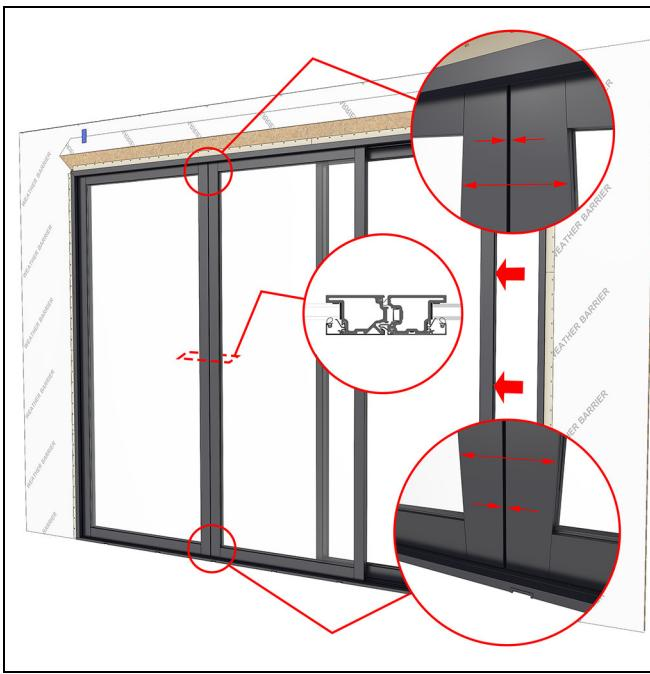

Figure 121
12. Slide the (C) panel over tight against the (H) stationary panel. Check to make sure you have an even reveal along the panel. The gap should be about $1/4"$ or less. See Figure 121.